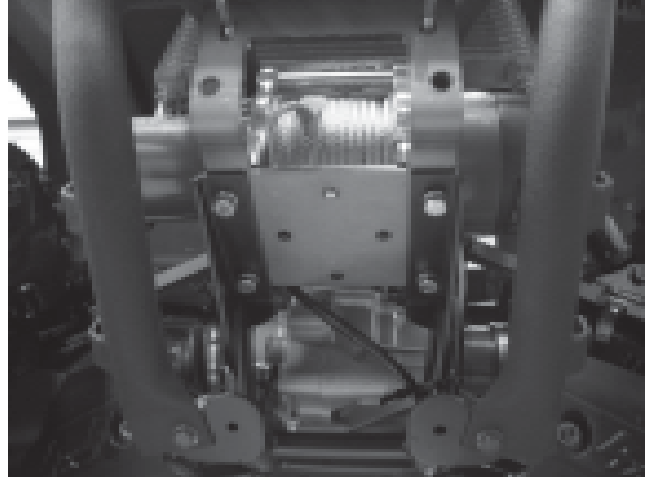

Figure 4: Assemble winch and mounting plate to ATV frame
4. Assemble winch and winch mounting plate (A1) to ATV mounting tabs using four M8-1.25 x 20mm hex bolts and four 5/16 lock washers found in winch mounting kit. Tighten M8-1.25 bolts to 17 N-m (12 ft lb). See Figure 4.